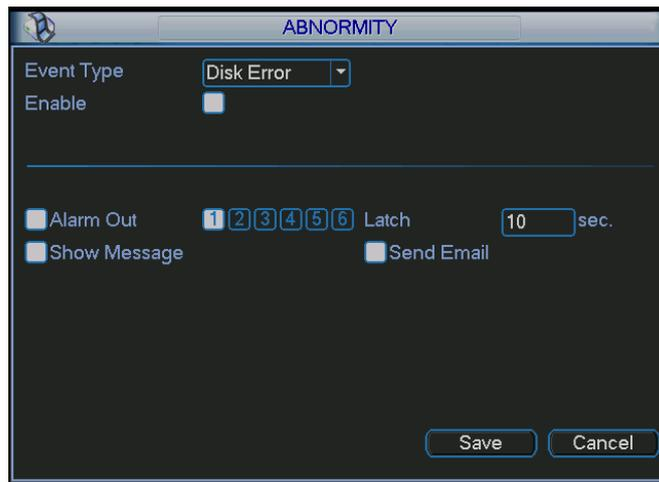

Figure 4-84
- Alarm set: Click alarm set button, the interface is shown as below. See Figure 4-84. (This interface is just like the abnormality setup). Please refer to chapter 4.8.2 for detailed information.